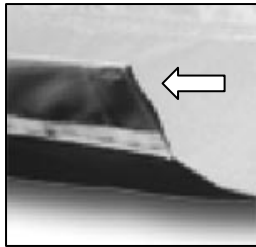

Figure 9: Velcro® End of Stretcher Bar Channel on Stretcher
STEP 10: (Figure 9) Slide the stretcher bars into the sides of the Stretcher (10) by opening the Velcro® tabs and inserting the stretcher bars. Re-seal the ends. (When not in use, store the Stretcher in the Stretcher Cup (15) at the base of the unit and tuck into the Stretcher Bracket (4) attached to the Display to hold it upright.)